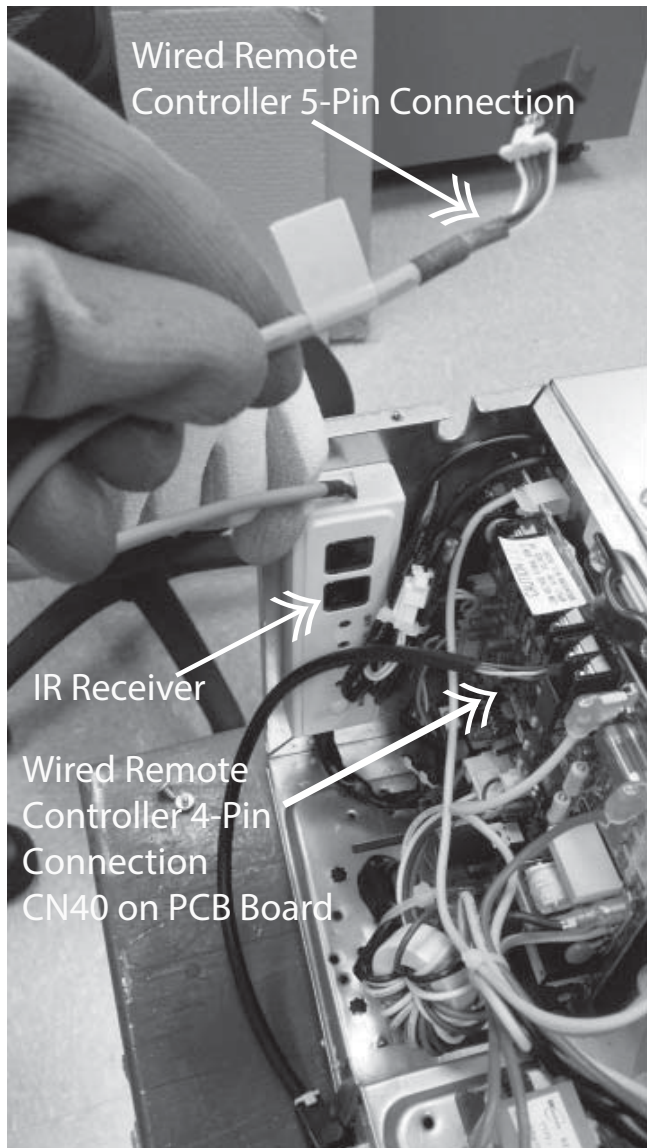

Fig. 51 — Control Box
**NOTE:** If a wireless remote controller is used, relocate the IR receiver within the line of sight of the remote location using the 6 ft. cable included. The factory location of the IR receiver is inside the remote controller box (see Fig. 51).
To connect the wired remote controller (Timer Function KSACN0101AAA sold separately) to the indoor unit, use a 5-core shielded cable supplied with the wired controller to plug into the 5-pin connector from the IR receiver located in the control box (see figure 51).